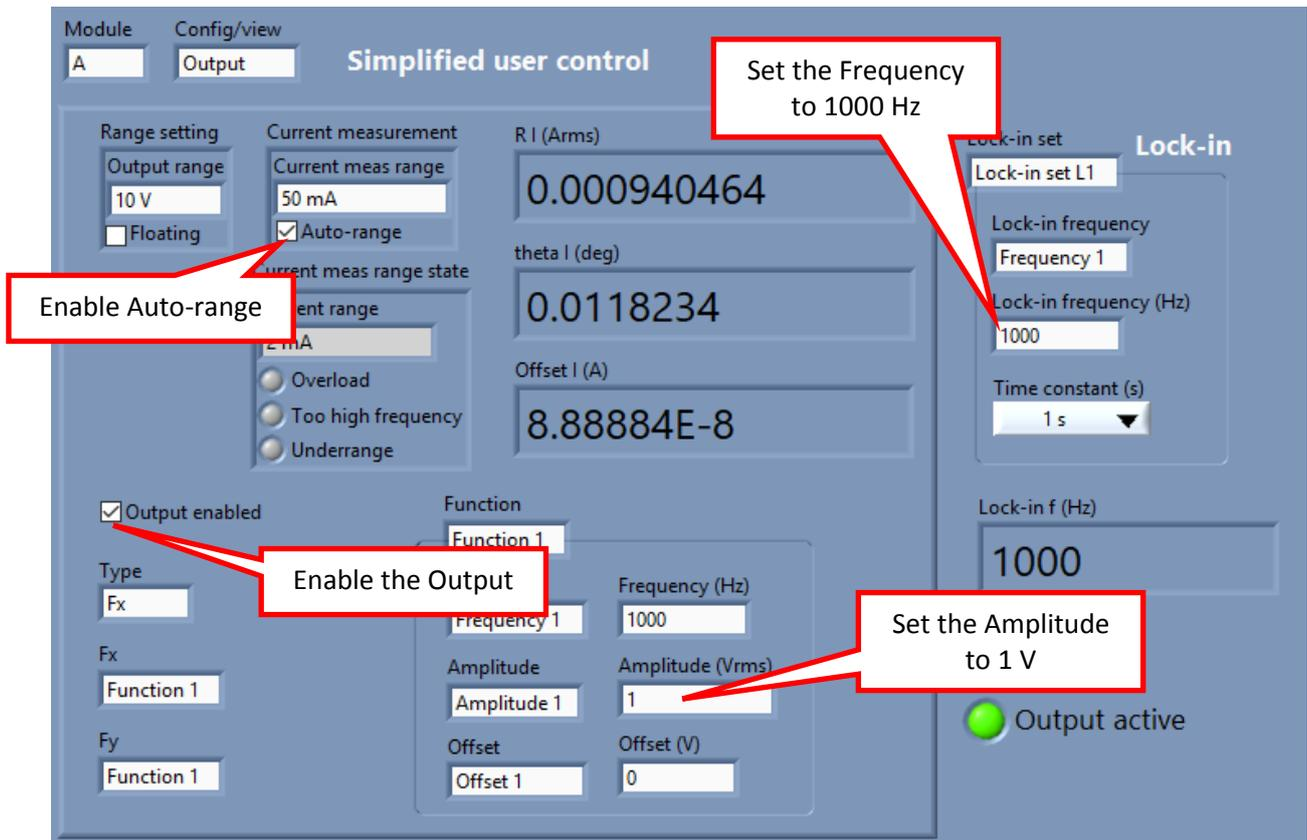

Figure 8, MCL Software Output Control Display
- 7) In the software, select the **Signal Recovery** tab and then use the **Config/View** control to select the **Output** display. Set the controls to 1000 Hz, 1 V rms output, output enabled, and auto-range current measurement, as shown in figure 8, below.